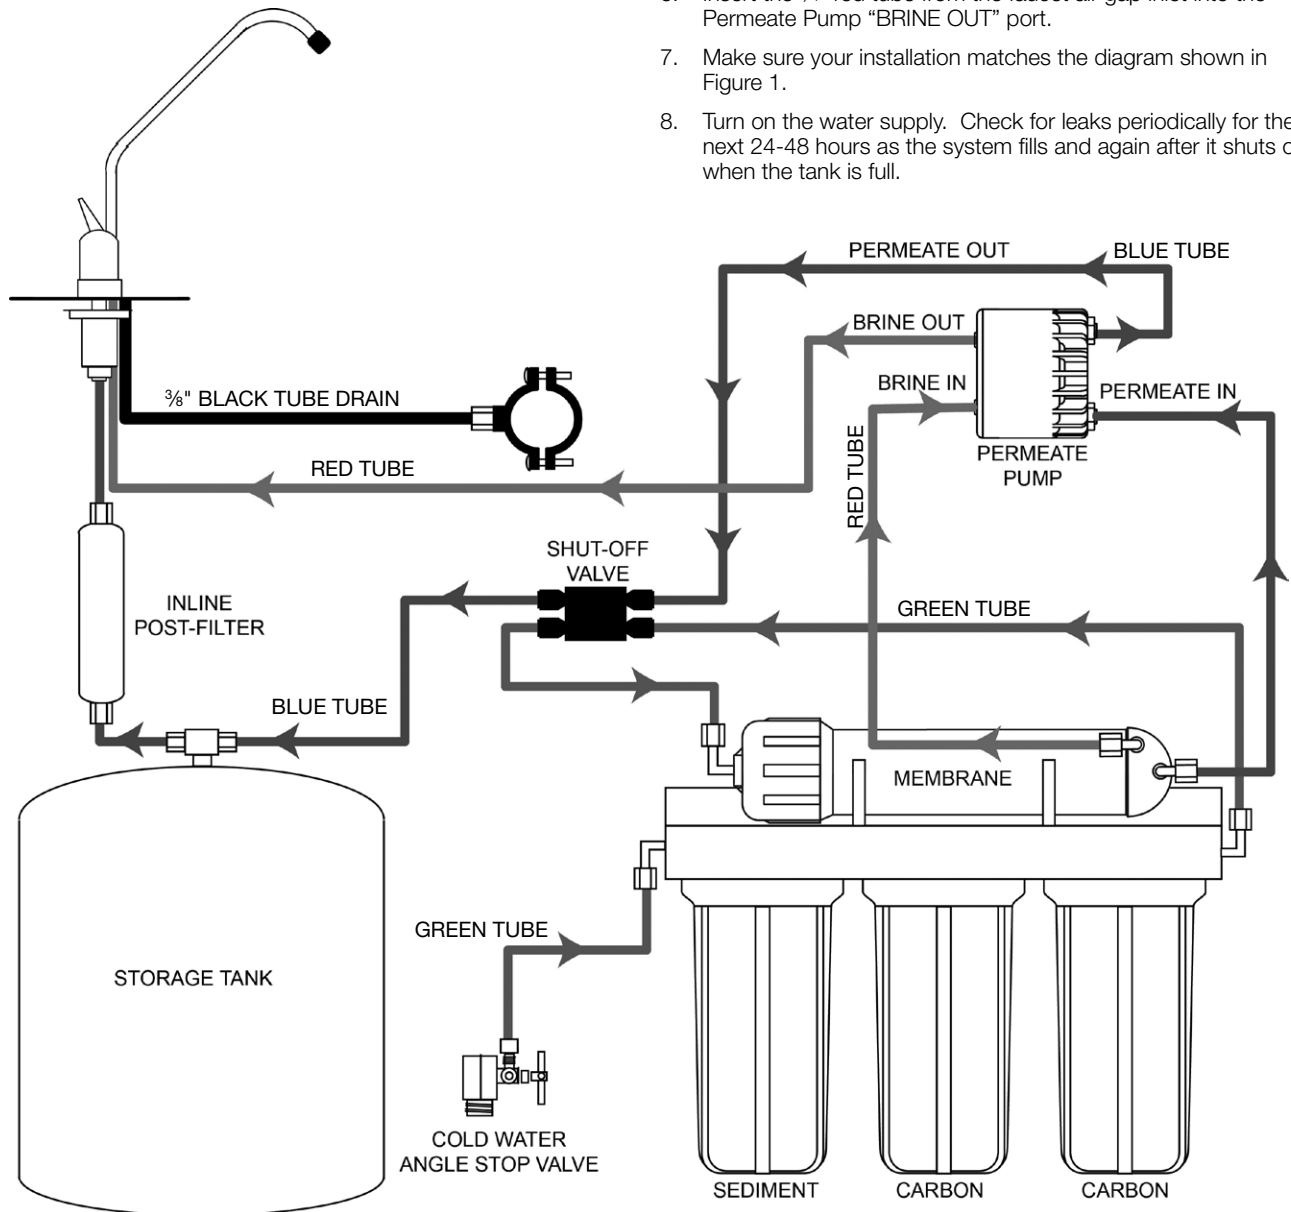

Figure 1: Standard System after installation of Permeate Pump
7. Make sure your installation matches the diagram shown in Figure 1.